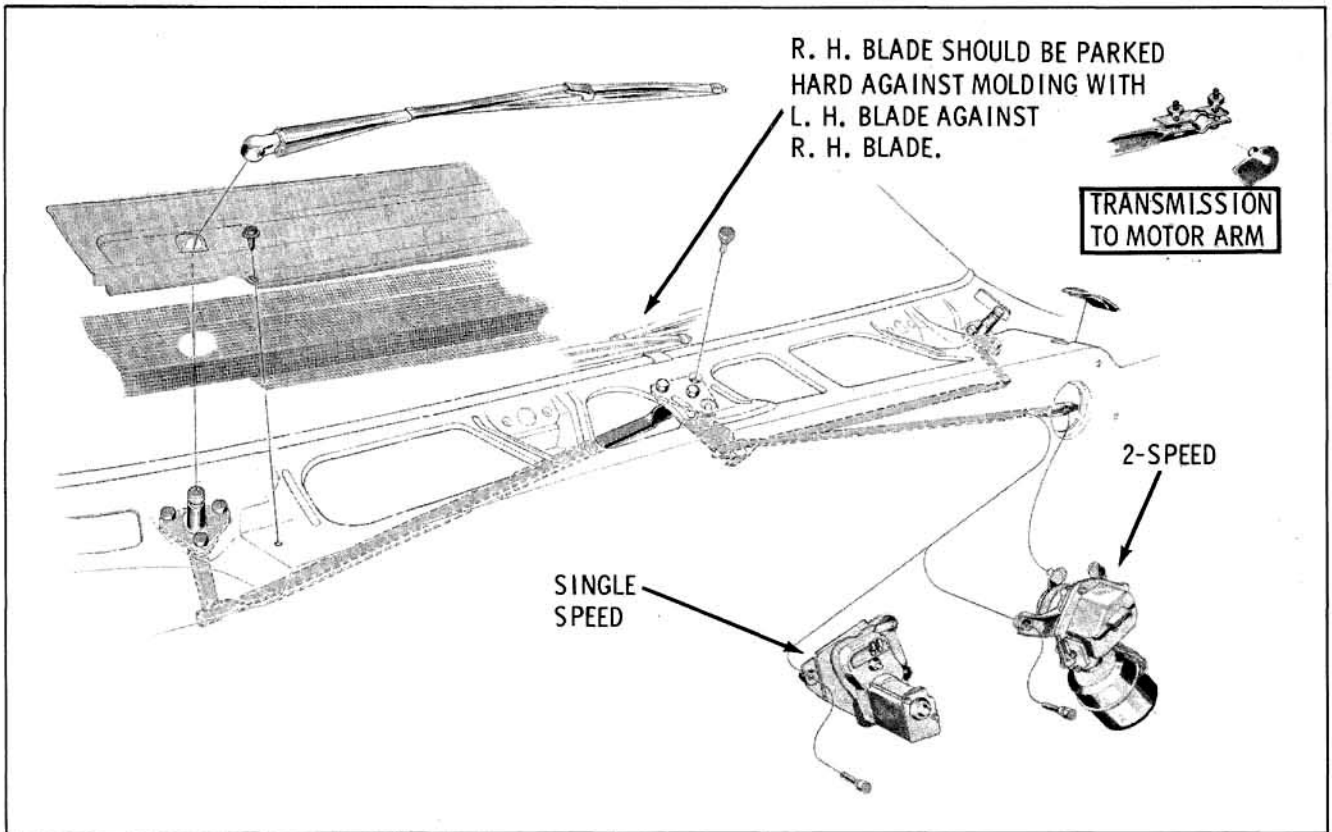

Fig. 13-155 Wiper Mounting (52 thru 8600 Series)
4. On 52, 54, 56, 58, 66, 84 and 8600 series, an access hole is provided in the upper cowl area. Remove the hole cover and loosen. Do not remove the two transmission to crankarm attaching nuts until the arm drops off the crankarm. (Fig. 13-155)